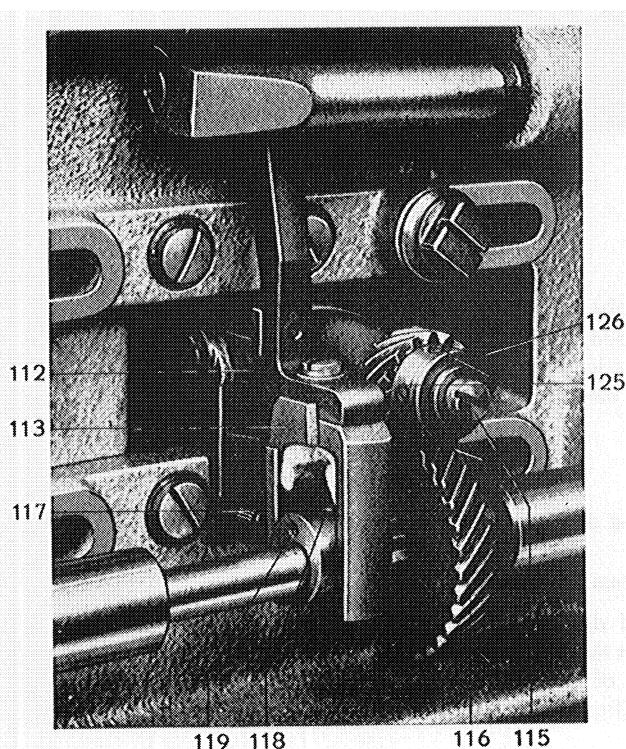

Fig. 26
2. Loosen fastening scw 112 (fig. 26) and adjust the height of the feed dog by vertically displacing eccentric fork 113. Supporting screw 117 must be regulated according to the displacement of eccentric fork 113.
In this position, the tip of the hook should be located exactly against the centre of the needle. To effect an adjustment loosen fastening screws 125 (fig. 26) of screw wheel 126 and rectify the position of the hook as required. Following the adjustment, retighten firmly fastening screws 125.